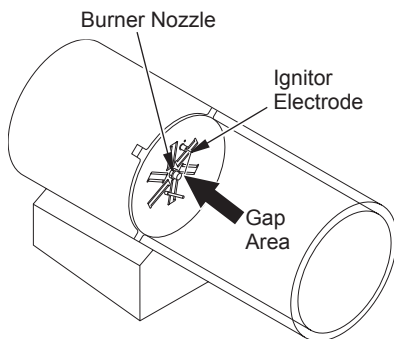

Figure 12 - Clearance between Ignitor Electrode and Target Plate
7. Check gap between ignitor electrode and target plate to 0.13"/0.15" (3.3/3.8 mm) (see Figure 12).